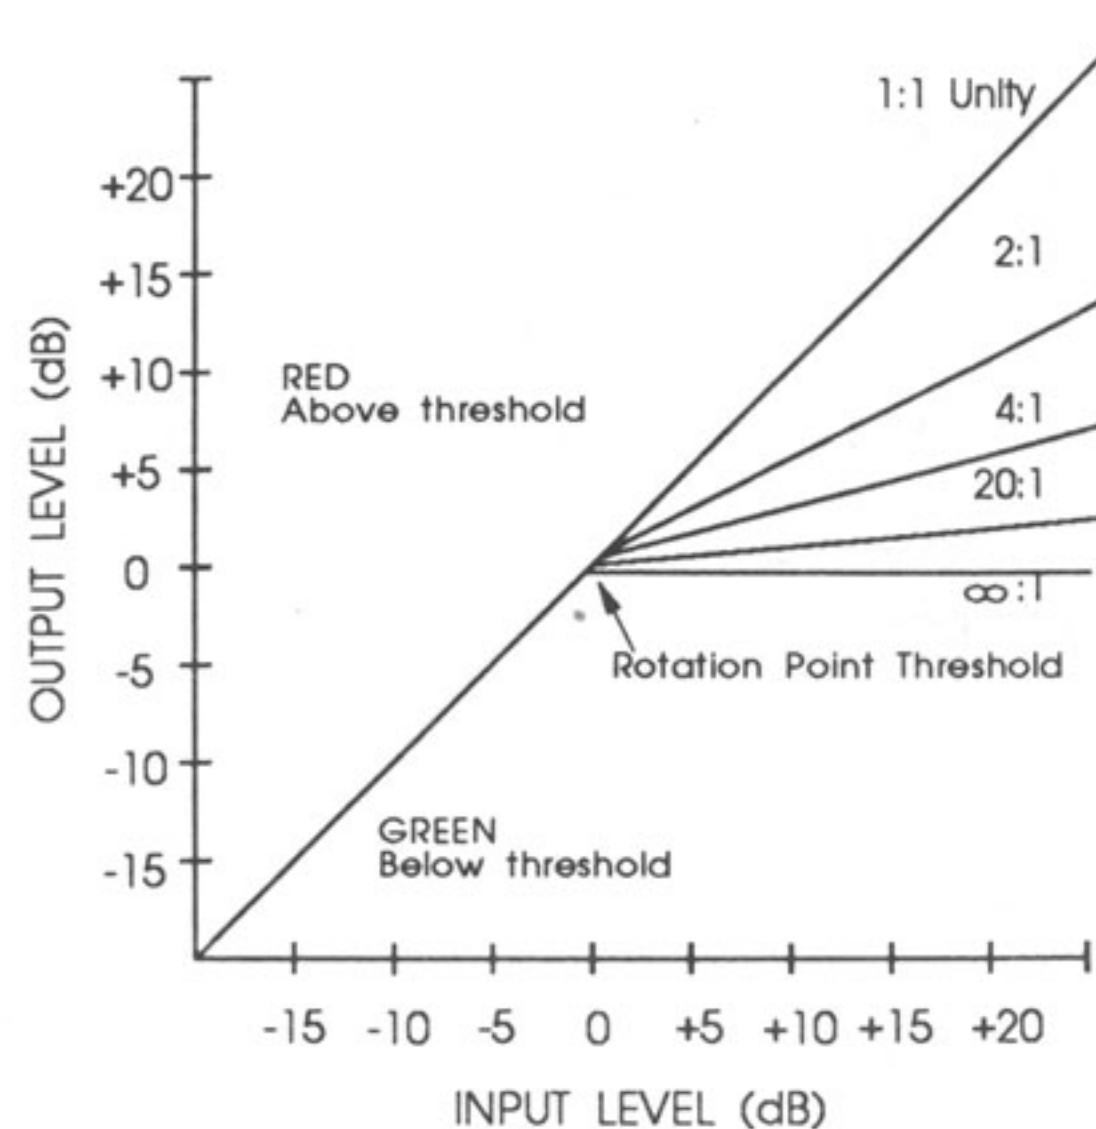

Figure 12: Hard-Knee Compression Curve
- A. **THRESHOLD control (and LED indicators):** In hard-knee mode this control sets a reference level above which input signals will be processed by the 160XT's gain change circuitry in the manner defined by the setting of the RATIO control. Input signals which fall below this level will pass through the 160XT unprocessed (except for fixed gain changes directed by the output control). See Figure 12.